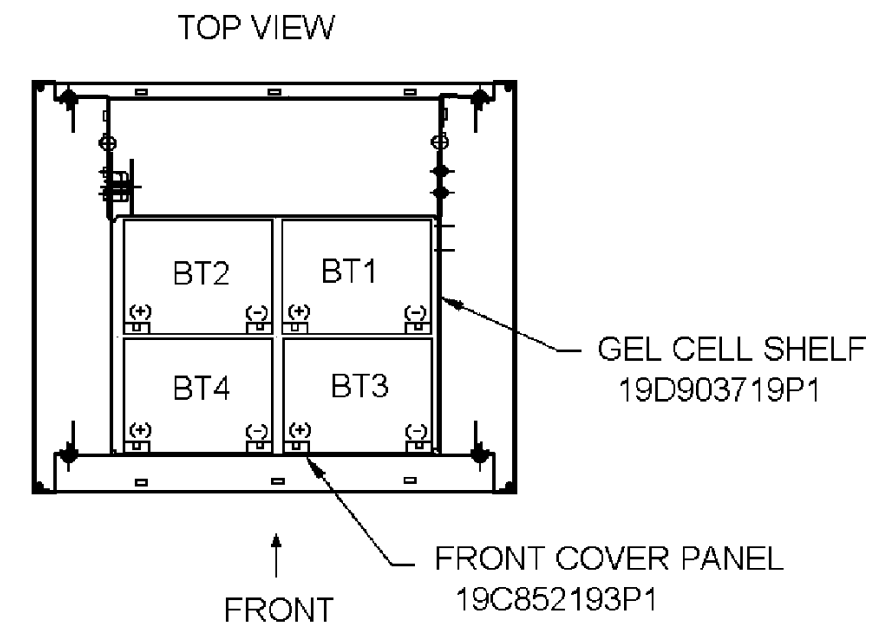

FIGURE 1
2. INSTALL BT1, BATTERY 19B209590P1, INTO GEL CELL SHELF 19D903719P1 AS SHOWN IN FIGURE 1. ATTACH A RED WIRE FROM HARNESS W8 (19C327801G1) TO THE "(+)" TERMINAL. ATTACH A BLACK WIRE FROM HARNESS W8 (19C327801G1) TO THE "(-)" TERMINAL.